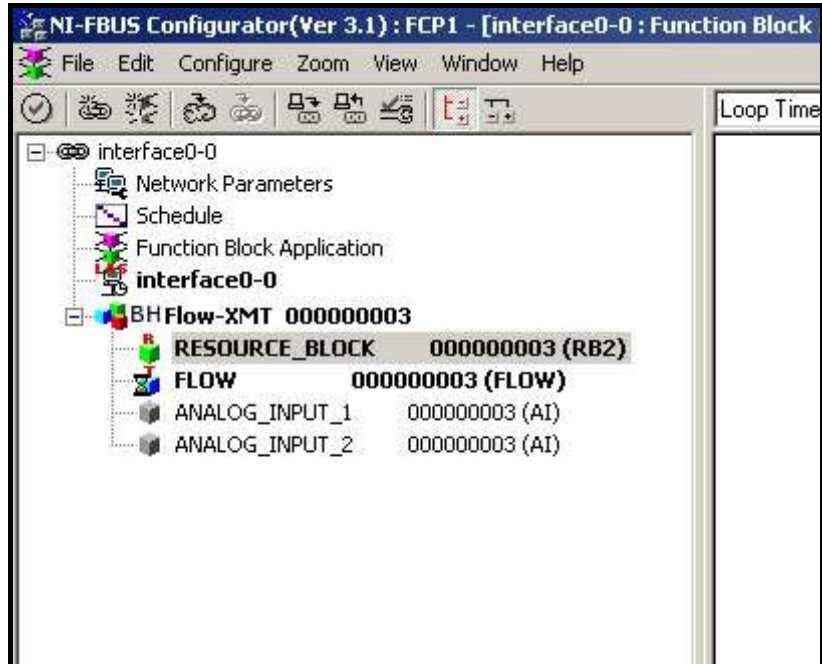

Figure D-1: Configuration Utility Setup Example
Figure D-1 below shows the Configuration Utility with a flowmeter on the network (BH Flow-XMT).
1. Double click on the AI block for which you wish to set the units (ANALOG_INPUT_1 or ANALOG_INPUT_2 in the tree under BHFlow-XMT; see Figure D-1 on page D-2).
1. Double click on the FLOW transducer block (in the tree under BHFlow-XMT; see Figure D-1 on page D-2).